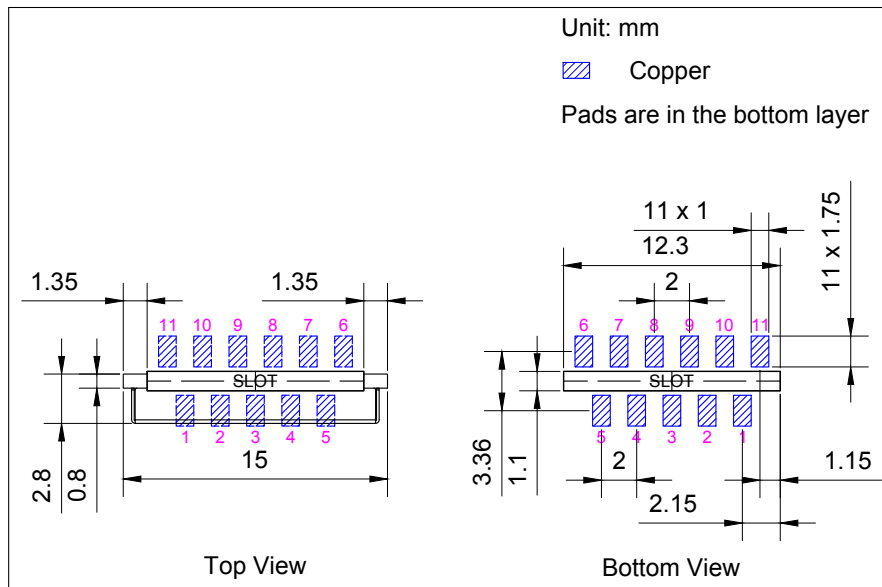

Figure 7: Recommended PCB Land Pattern
- Figure for the recommended PCB land pattern with all the dimensions needed for PCB design. See Figure 7 Recommended PCB Land Pattern.
- Source file of the recommended PCB land pattern to measure dimensions not covered in Figure 7. You can view the source files for ESP8685-WROOM-03 with Autodesk Viewer.